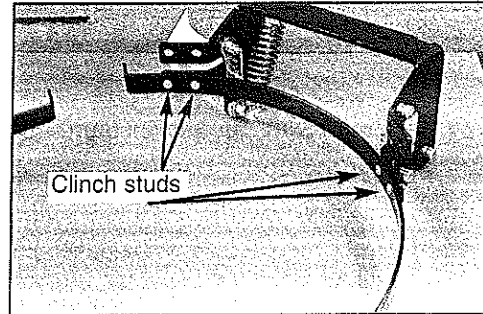

Fig. 1
1. Position the lower band and the hinge mechanism in relation to each other. Insert the four clinch studs into the lower band and hand tighten nuts to secure it to the bracket. (See Fig. 1)